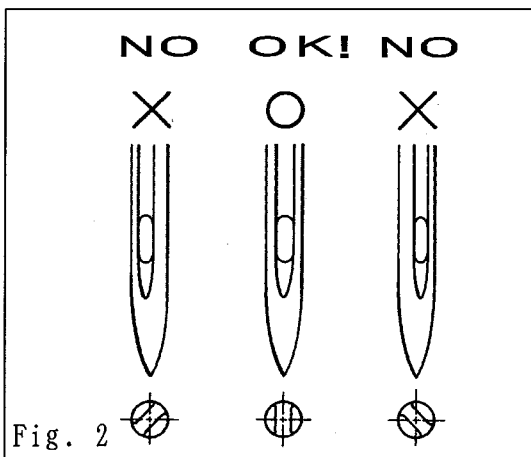

Fig. 2
- (2) Remove the old needle with tweezers.
- (3) See the figures 2 and 3 and insert a new needle into the needle clamp② with facing its scarf to the right back.
- (4) Tighten the screw① with allen wrench.